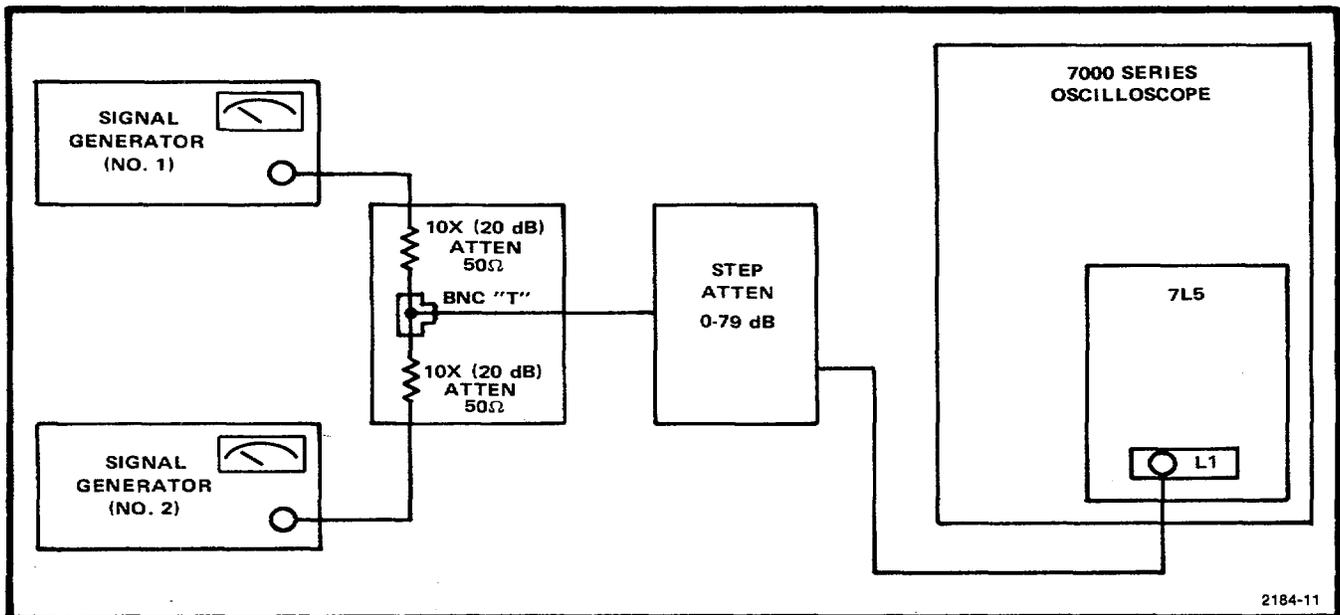

Fig. 3-5. Intermodulation distortion test equipment setup.
a. Connect test setup in accordance with Fig. 3-5.